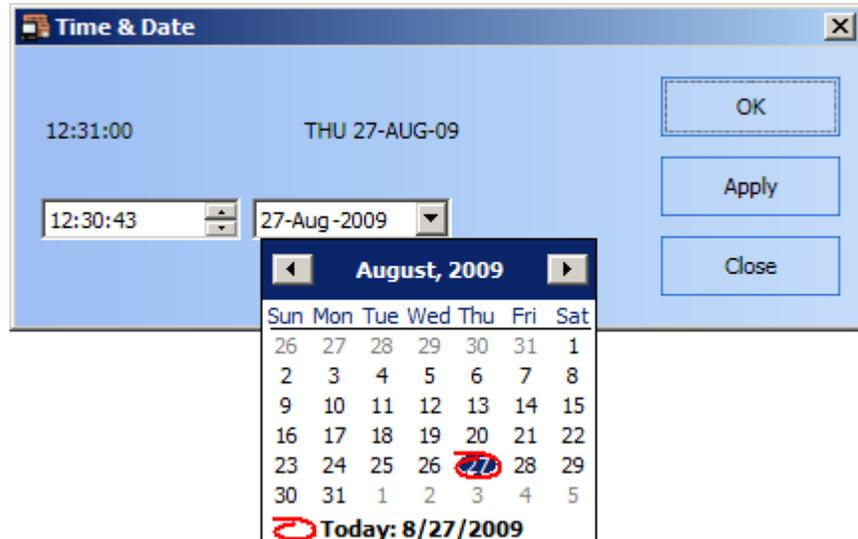

Figure 7-7 Time and Date Dialog
2. The **Time and Date** dialog box appears as shown in Figure 7-7. In this dialog box, you may change time and date settings as follows: